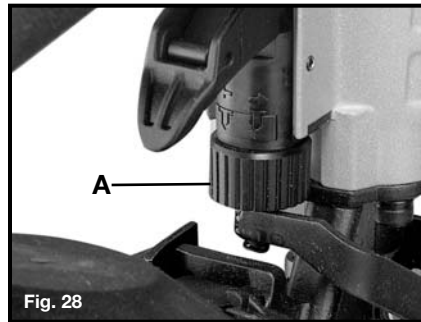

Fig. 28
The depth to which a fastener is driven is controlled by the depth adjustment knob (A) Fig. 28. The depth of drive is factory adjusted to a nominal setting. Test fire a fastener and check depth. If a change is desired, rotate the knob (A) Fig. 28 clockwise to increase the depth of drive, rotate the knob counterclockwise to decrease the depth of drive. The adjustment knob has detents every $\frac{1}{4}$ turn. Test fire another fastener and check depth. Repeat as necessary to achieve desired results. The amount of air pressure required will vary depending on the size of the fastener and the material being fastened. Experiment with the air pressure setting to determine the lowest setting that will consistently perform the job at hand. Air pressure in excess of that required can cause premature wear and/or damage to the tool.